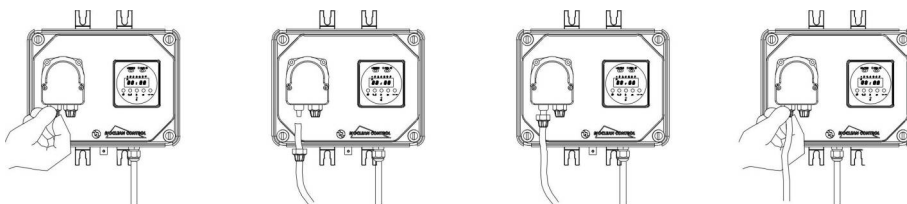

Fig. 4
- d.- Slide the hoses over the connectors, pushing them right home, and then fix them with appropriate tube nuts (fig.4).